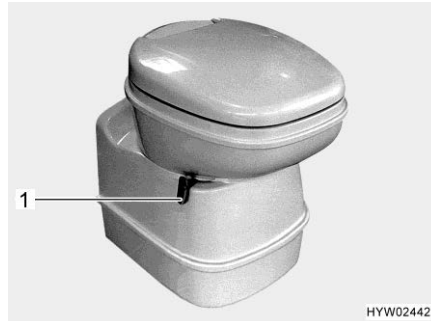
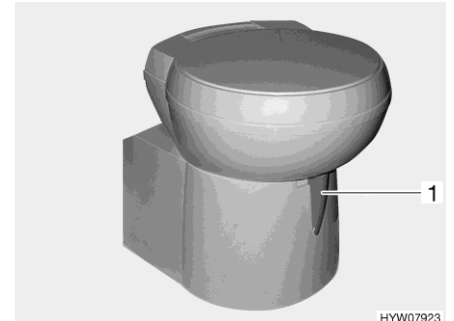

Fig. 272 Thetford toilet bowl, swivelling
Fig. 273 Thetford toilet bowl, swivelling (alternative)
- Before flushing open the sliding trap of the Thetford toilet. To do this, push the slide lever (Fig. 272,1 or Fig. 273,1) in an anticlockwise direction.